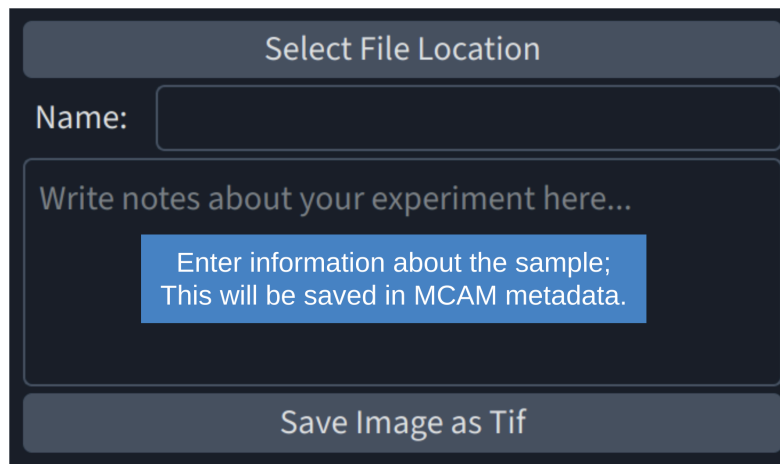

Fig 14: Save settings.
MCAM data can be exported or saved from the GUI in several ways. First, high resolution images can be exported using the “Save Image as Tif” button (Fig 14). “Select File Location” will open the directory in which the most recently saved images were placed.
1. The user defines the prefix of this filename by entering in the “Name” field (Fig 14).